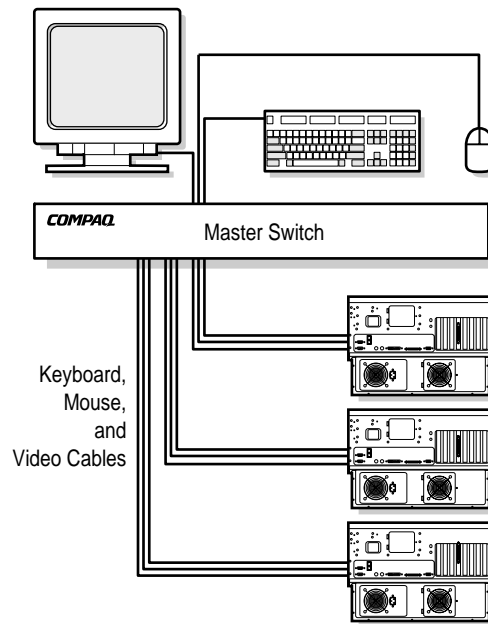

Figure 1-1. Single Keyboard/Monitor/Mouse Switch Box
- A single Keyboard/Monitor/Mouse Switch Box is used to connect four or eight servers. In this configuration, the keyboard, monitor, and mouse are connected directly to the unit by their respective cables. You can connect the Keyboard/Monitor/Mouse Switch Box to servers located in the same or adjoining racks. See Figure 1-1.